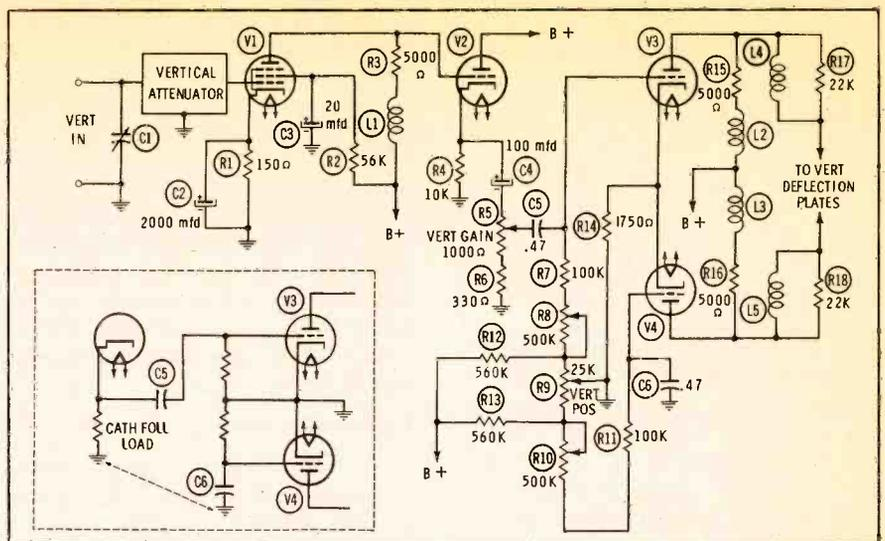

Fig. 11. Vertical amplifier is signal-handling section of the oscilloscope.
Differences you will find in vertical amplifiers will generally concern the input-attenuator arrangement, the amount of amplification, the bandwidth, and the point of sync takeoff. A typical vertical amplifier is shown schematically in Fig. 11.
The push-pull output stage shown in Fig. 11 is unusual in its own right,
because of the uncommon driving arrangement—usually found only in scopes. Cathode follower V2 is used as the driver tube. C4 couples the signal to the VERTICAL GAIN control R5; the impedance of the capacitor is so low that the cathode-follower signal load effectively consists of R5 and R6 paralleling R4. Capacitor C5 feeds the signal to the grid of V3. But how is the push-pull signal developed and made to drive V3 and V4 on alternate cycles? The insert of Fig. 11 shows the simplified equivalent push-pull circuit. Since C6 grounds the grid of R4 for signal voltages, the cathode-follower load is connected to both grids—one end to V3, and the other to V4. Thus, when the signal waveform is positive-going, V3 conducts; on the negative excursion, V4 conducts. In this way, the tubes act in push-pull, without the conventional phase-splitters, phase inverters, or driver transformers commonly associated with push-pull operation.
In the circuit of Fig. 11, this beam positioning is done by changing the tube bias; control R9 is the adjustable part of a voltage divider which balances the bias voltage between the grids. Moving the control slider toward V3 will place its grid nearer ground potential, applying more of the cathode bias to the grid. Meanwhile, the V4 grid becomes slightly more positive because of its connection to B+ through R13. Conduction
The gain of the vertical amplifier section is developed mostly in the input amplifier. However, the bandwidth of the instrument is dependent on the bandpass of all the amplifiers. V1 in Fig. 11 uses choke L1 for high-frequency peaking, and high-value cathode-bypass capacitor C2 to prevent low-frequency degeneration. DC coupling to the cathode follower prevents any frequency-response problem there.
If a single-ended output stage is used, one deflection plate is grounded. Operation is then somewhat similar to the push-pull action described in the insert of Fig. 11, with the ground connection serving as a signal-coupling device.
Fig. 13 shows one of the more common horizontal amplifiers. It is quite similar to the vertical amplifier shown in Fig. 11, except it has less gain, and the bandwidth is more limited. The same push-pull configuration—so common in modern scopes—is used in this amplifier. However, you'll notice the absence of frequency-compensating devices in this amplifier—a clue that bandwidth is not considered important for the horizontal sweep system of this scope.
*Polarity reversal* is merely a way of turning the trace upside down so positive-going pulses (such as television sync pulses) point downward, whereas they might normally point upward. This can be done rather easily by providing a switch to reverse the polarity of the signal just before it is fed to the push-pull output stage. With some scopes, this is done by switching the push-pull input from the cathode (as in Fig. 11) to the plate, which must have a suitable plate-load resistor.